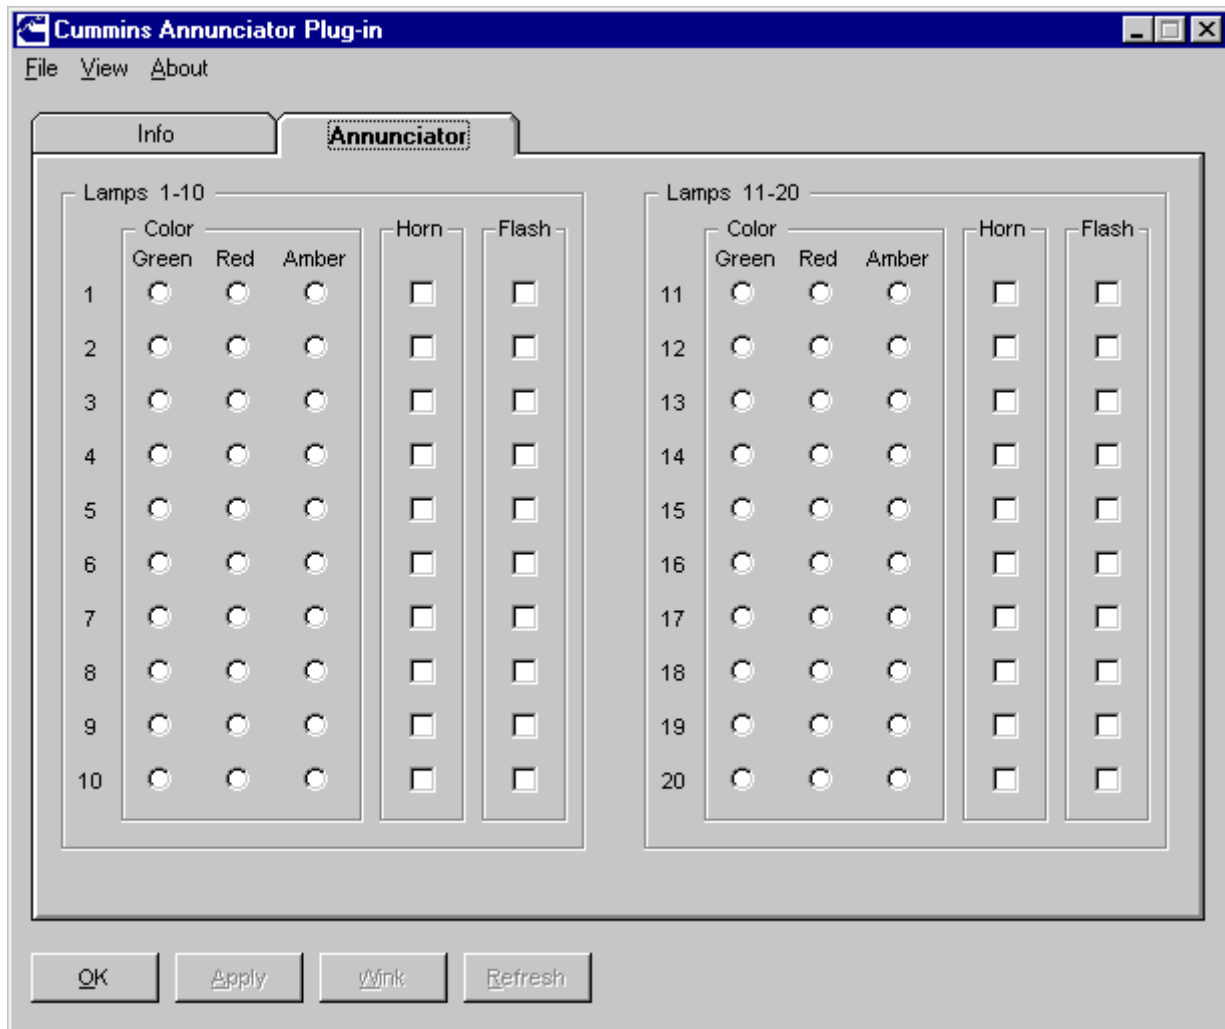

FIGURE 8. CONFIGURING ANNUNCIATOR LAMPS IN LONMAKER
The 20 Status lamps may be individually configured using the Annunciator Configuration Plug-In, which may be launched while running LonMaker. The lamps may be configured for *color*, *horn*, and *flash* (see Figure 8). In LonMaker, to set or change a lamp's configuration:
3. Set "Color," "Horn," and "Flash" for each lamp (see Figure 8).